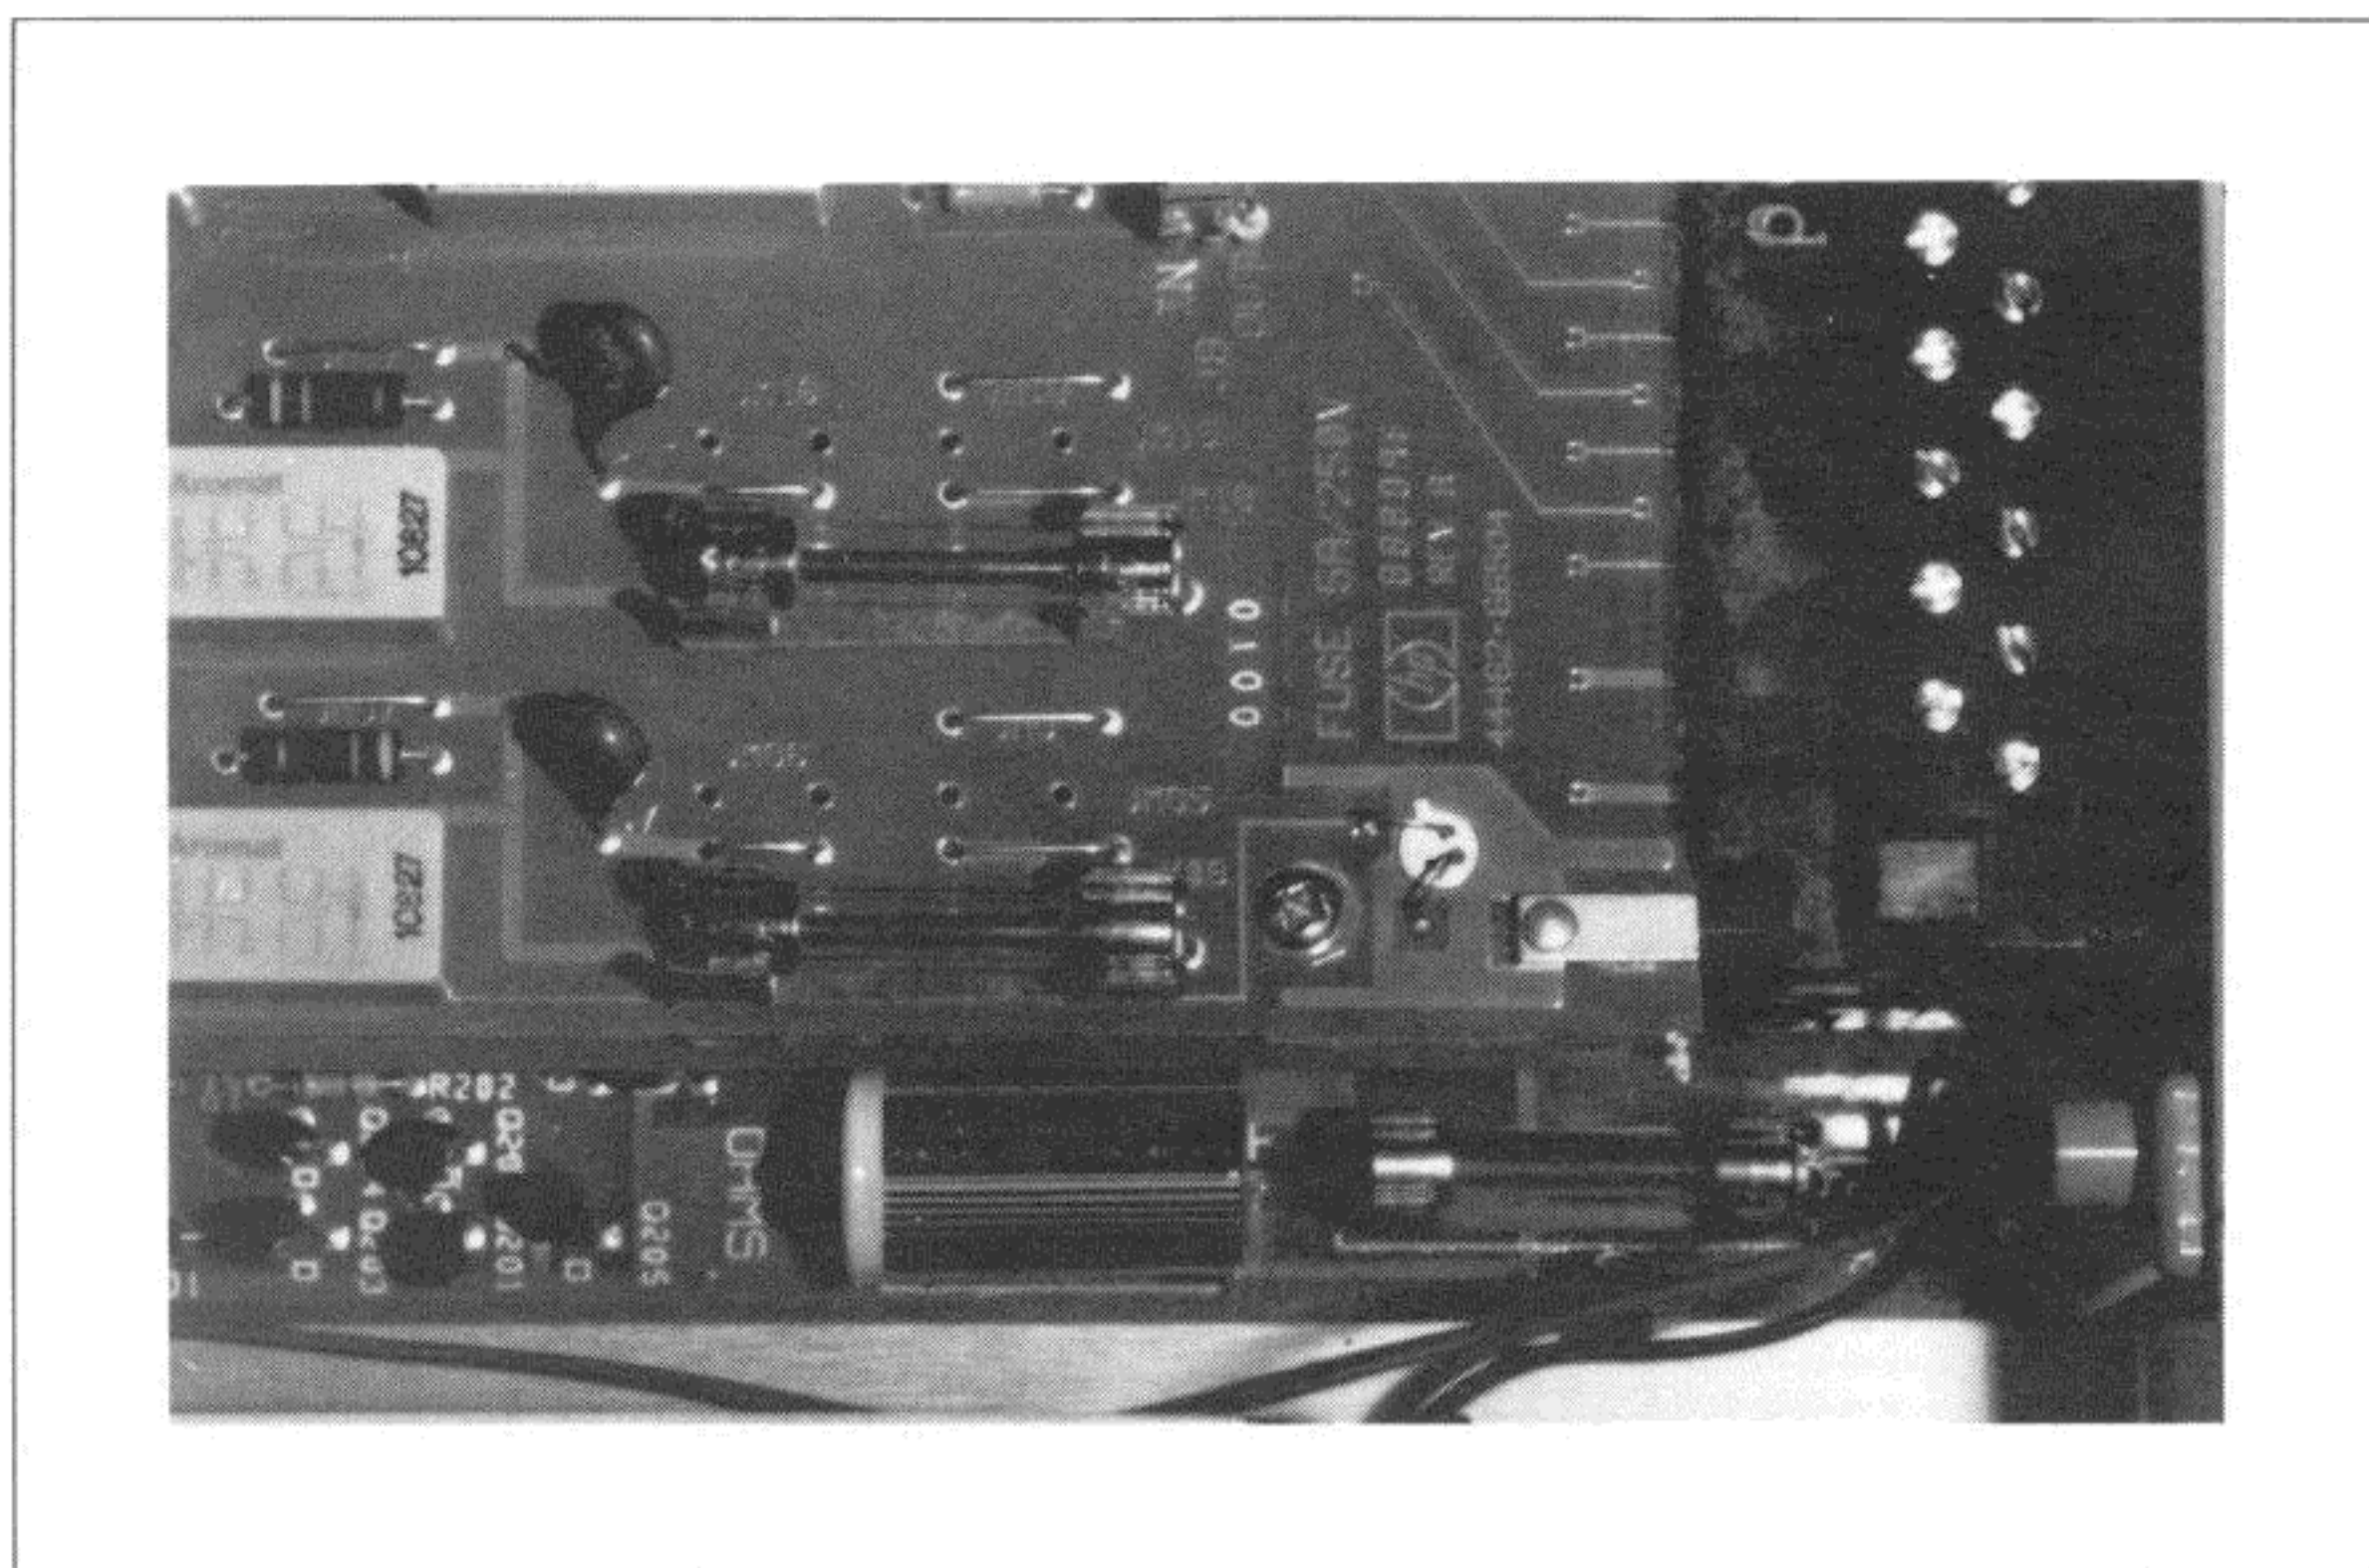

Figure 1-8-5. Remove Main Battery Fuse
- d. Refer to Figure 1-8-5 and locate the battery fuse toward the right rear of the instrument. Remove it from its socket. Instead of removing the fuse, you can unplug the red wire from the battery. If this is done, make sure the wire is placed out of the way and away from the battery.